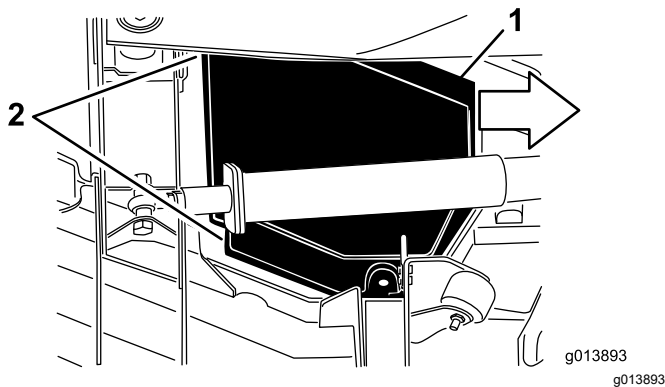

Figure 47
5. While lifting the cover, slide it toward the traction unit approximately 2.5 cm (1 inch) to disengage the outer-cover edge from the deck (Figure 47).